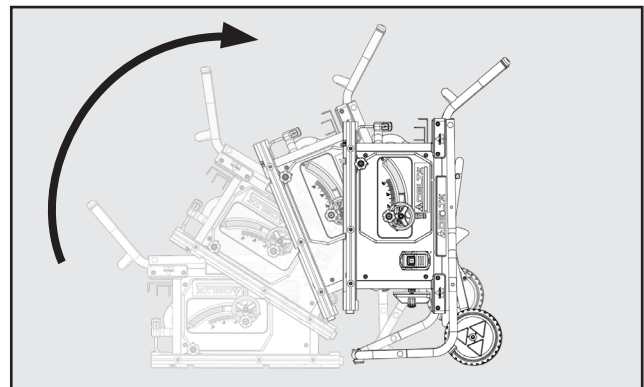

Figure 11
10. Once all M8 Locknuts are secured, flip the Saw upright as shown in Figure 11. Once the saw is upright disengage the pedal, push down on the handles until the catch is engaged, and then continue the remaining assembly steps.